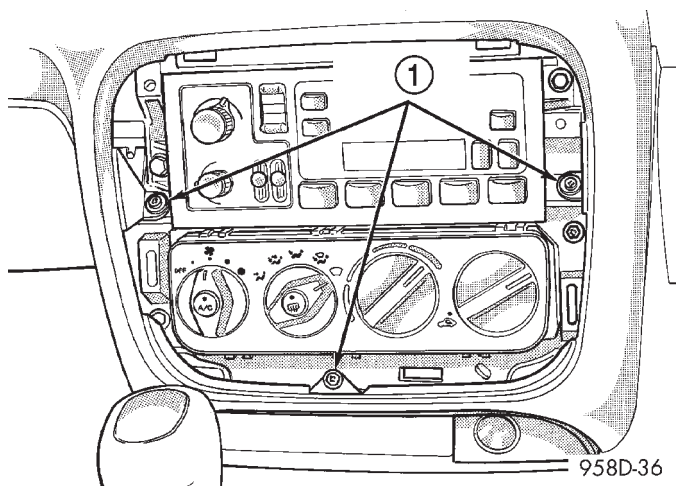

Fig. 8 Instrument Panel Top Cover Attaching Screws
(6) Remove the 3 screws attaching the top cover to the dash panel (Fig. 8).
(7) Remove the top cover from the dash panel. Removal of the top cover is required to gain access to